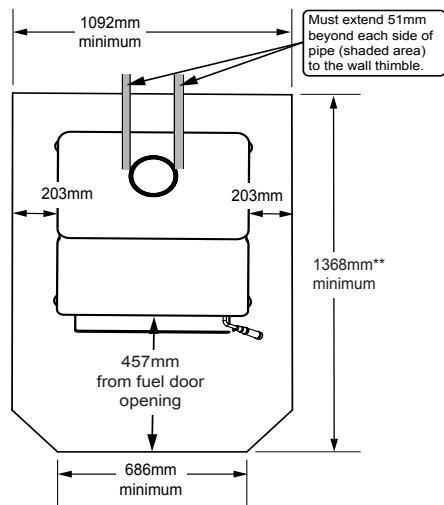

Figure 11.2
In Canada, similar floor protection must be provided 18 inches (457mm) in front and 8 inches (203mm) from the sides and rear of the appliance unless the hearth pad is placed against the wall (Figure 11.2). Then the clearance may be reduced using double wall pipe and the **Clearance to Combustibles** table listed on page 12.
*Exception: Non-combustible floor protector must extend beneath the flue pipe when installed with horizontal venting and extend 2 inches (51mm) beyond each side; See Figure 11.2